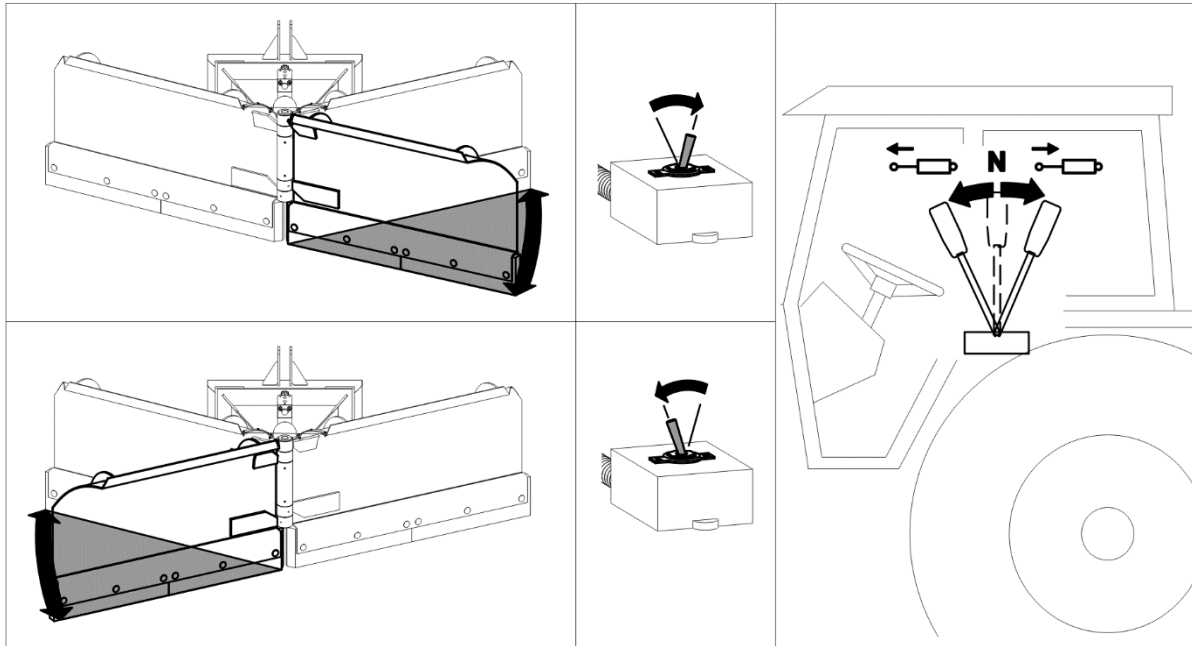
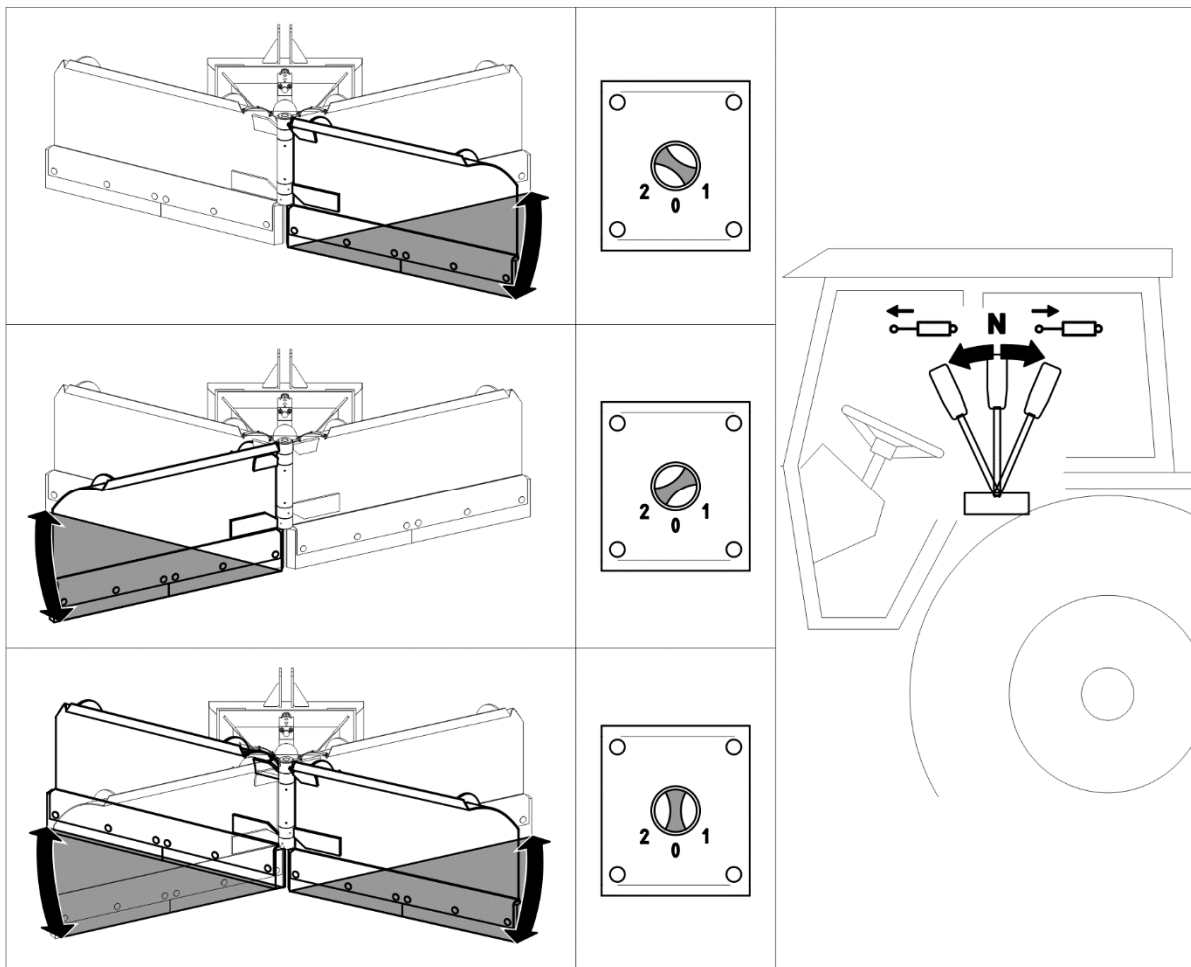

FIGURE 4.7 Setting working position for independent control
FIGURE 4.8 Changing the working position for simultaneous-independent control
Depending on type of control system (independent or independent-simultaneous control), the snow plough can be equipped with 2-position switch (FIGURE 4.7) or 3- position switch (FIGURE 4.8)
When the switch is set to „OFF” or „0” position (switched off), a single snow plough blade can be controlled and when the switch is flipped to „ON” or „1” position (switched on), the other snow plough blade can be controlled (FIGURE 4.7).
Simultaneous-independent control (option) enables setting any position of the snow plough blades (FIGURE 4.8). When the switch is set to position „1”, the left snow plough wing can be
(1)- wheel; (2)- body; (3)- knob; (4)- knob lock, (A) - rising, (B) - lowering
In the snow ploughs equipped with supporting wheel (FIGURE 4.8), the working height adjustment is performed by withdrawal or insertion of wheel (1) in the body (2) by turning the knob (3). The knob is protected by a lock (4). After setting the wheel height, appropriately set knob (3) and secure it with lock (4). It is recommended that both wheels are set at the same height.